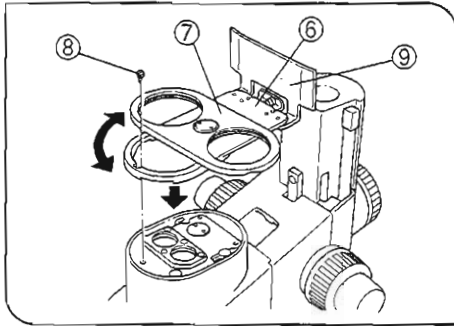

Fig. 33
5. Place the nosepiece mount ⑥ (with its objective mounts ⑦ facing upward) where the objective has been by aligning the screw holes. Using the Allen wrench (for M3 screws), clamp the revolver mount with the provided 3 clamping screws (M3 — 6 mm long). (Fig. 33)
★ As the screw holes may be hidden behind the objective mounts ⑦, clamp the nosepiece mount while rotating it. (Fig. 33)
7. Attach two objectives onto their respective objective mounts ⑦ by screwing. (Fig. 33)